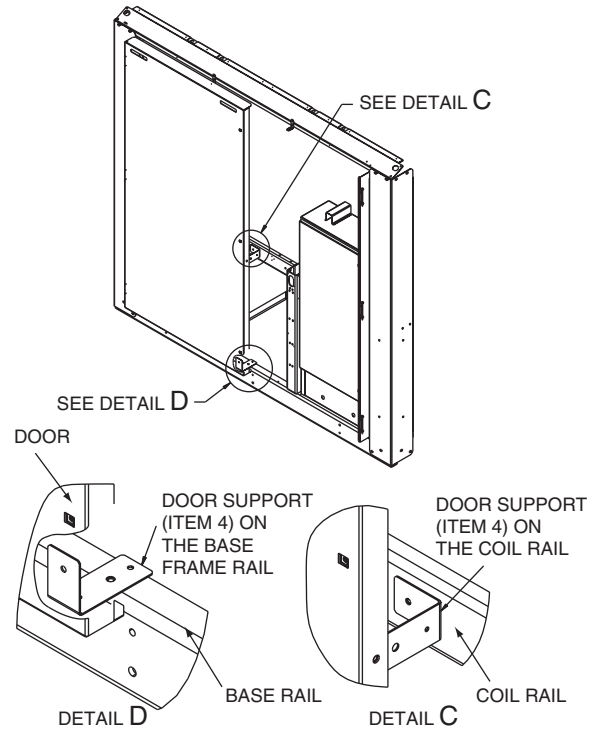

Fig. 3 — Accessory Package 00EFN500002000A Door Support Detail
5. Attach one door support (Item 4) to coil rail using one M6 screw (Item 7). Attach another door support (Item 4) to the base frame rail using one M8 screw (Item 5). See Fig. 3.